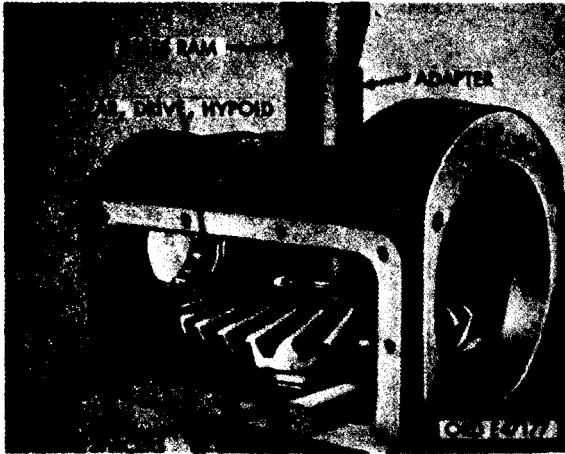
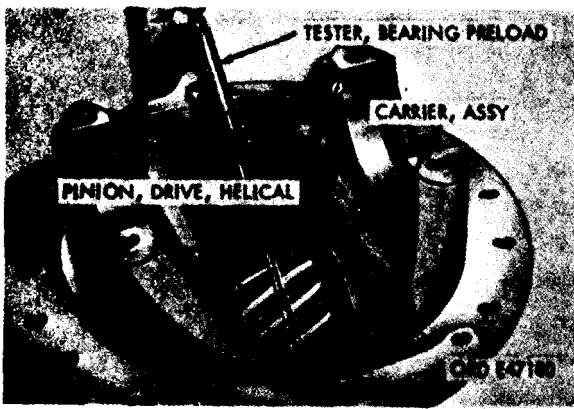

Figure 387. Pressing hypoid drive gear from helical drive pinion
Figure 390. Checking helical drive pinion bearing preload
- (t) Position differential carrier assembly on press, inspection hole up. Place two soft iron spacers between rear face of hypoid drive gear (fig. 387) and case. Using a suitable adapter, press helical drive pinion from hypoid drive gear.
- (n) Position original helical pinion cage shims (N), which control helical pinion outer bearing cones (J and K) preload, and which were tied to cover at time of disassembly, over long studs (M, fig. 383) next to helical pinion outer bearing cage (G). Be sure oil passage cutout is alined with oil hole in top of cage. Place helical pinion outer bearing cover (P) in position over studs with oil passage alined with oil hole in cage and shims. Install six lockwashers (R) and hex-nuts (Q), and tighten firmly. Using bearing preload tester 6870-347-5922 (fig. 390), check bearing preload reading. For new bearings, cups, and cones, the correct preload should be 12 to 18 lb.-in. maximum. When the original or used bearings are being assembled, the bearing preload should be 4 to 8 lb.-in. maximum. If correct preload is not obtained at first trial, refer to figure 387 for bearing adjustment points. When specified bearing preload is obtained, be sure cap screws are tight. Refer to figure 385.